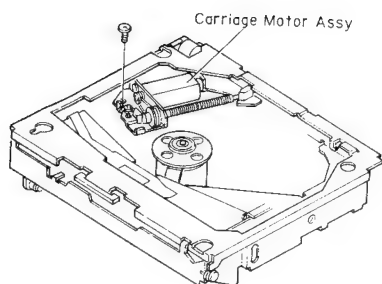

Fig. 9
11. Remove the screw, and then remove the carriage motor assy.(Fig. 9)